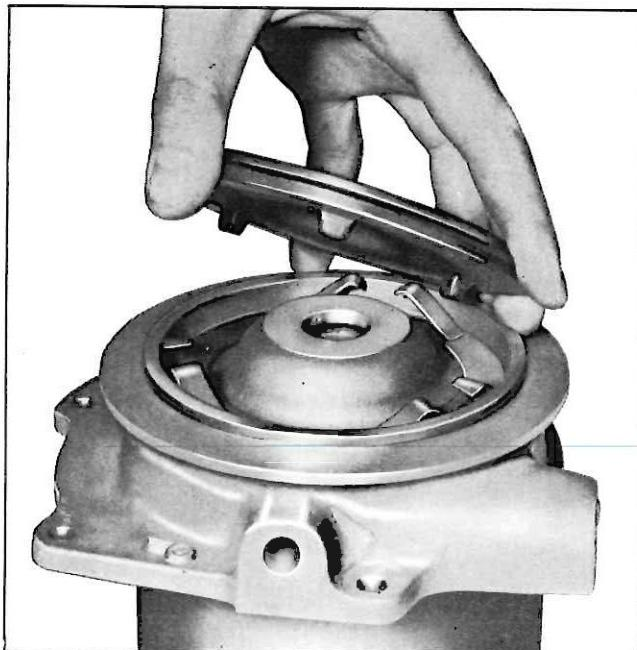

Fig. 30—Heat Shield Spring Ring Installation
10. Turn the bearing housing over (on ring support tool) and install spring ring. Position the turbine shield to install with three projections spaced over flat areas of the spring ring (fig. 30).